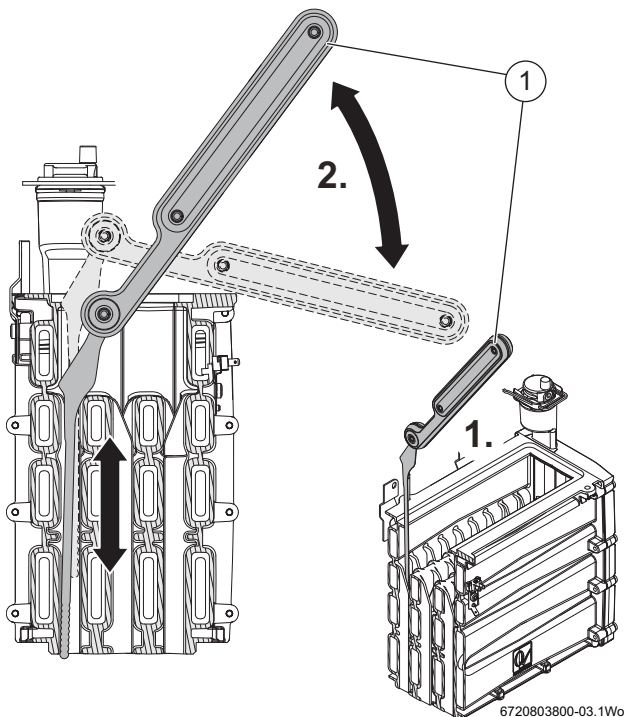

Fig. 79 Heat exchanger cleaning tool
1. Orient the cleaning tool (2) as shown in figure 79 and insert the tool into the rear or middle channels for cleaning.